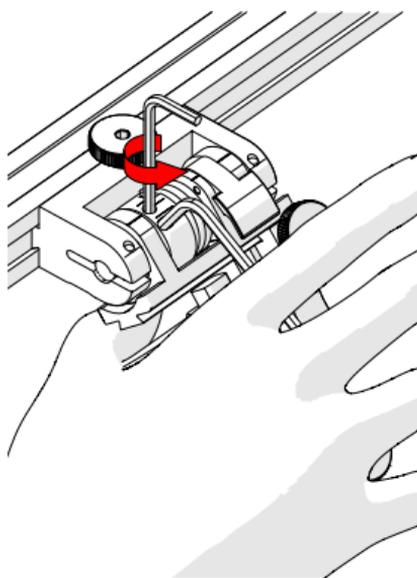

Fig. 103 - Press 3 mm hex wrench down
5. Lightly press the long arm of the 3 mm hex wrench down. Using the 2 mm hex wrench, loosen the force adjustment screw but do not remove it (Fig. 103).